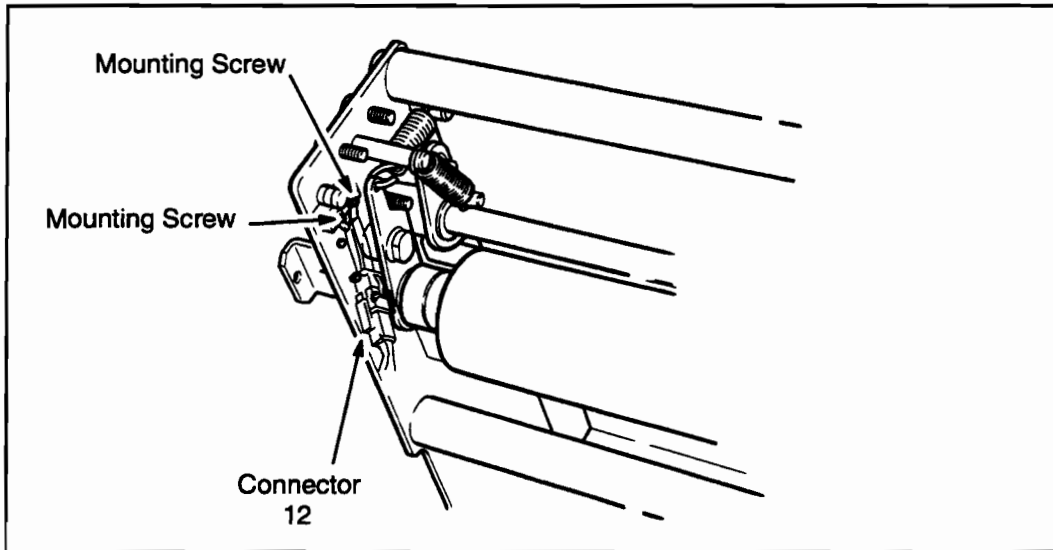

Figure 6-64. SSW1 Connector
5. Disconnect SSW1 wiring at Connector 12. See Figure 6-64.
6. Using a #1 Phillips screwdriver, remove the two switch mounting screws and remove the switch. See Figure 6-64.